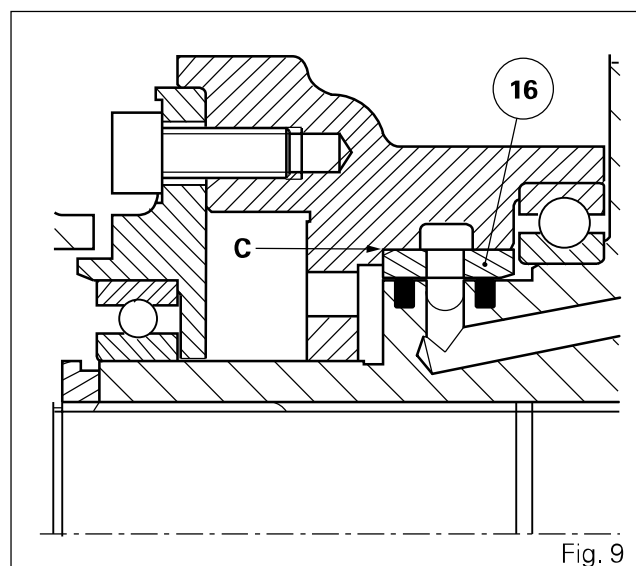

Fig. 9
40. Assemble unit (18) fitted with the piston (28) on shaft (19).
41. Compress the Belleville washers using the tool used in operation 23. Position ring (5), aligning two of the flats with the flats on unit (18). Replace the rear snap ring (9) and correctly position it in the bottom of the groove.
43. Check that the seal rings (15) turn freely in their grooves. Fit the seal rings, lightly coated with miscible grease, making sure that they do not protrude beyond the rim of unit (18).
44. If necessary, fit the 1.5 bar valve (73) and tighten to a torque of 47 - 54 Nm. Insert ring (16) using a suitable fixture, with the chamfer "C" in the direction shown in Fig. 9.
45. Lubricate the bush. Assemble pump unit (1) on unit (18).
46. Lubricate pump (14) with transmission oil and position it aligning the flats of the rotor with those on the unit (18).
47. Manually check the angular movement of the rotor on the flats of unit (18).
48. Fit bearing (12) on cover (2) of the pump. Fit the cover. Install circlip (11) and screws (13) and tighten to a torque of 36 - 46 Nm.
49. Lubricate and install a new assembly (O'ring (7) and anti-extrusion ring (8)). Slide on the splined bush (6). Fit a new front snap ring (9).
50. Soak the discs (29) in a transmission oil bath for approximately 1 hour. Check that they are correctly saturated.